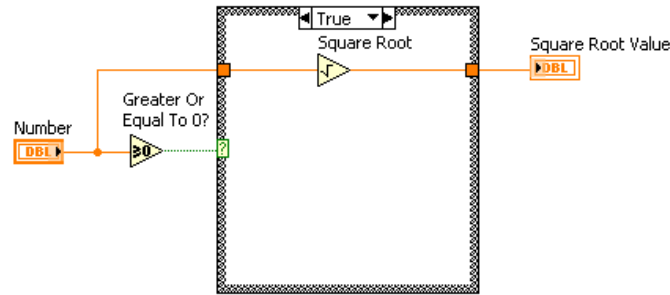

Figure 8.12
2. Select the True case of the Case structure. Place the Square Root function, located on the Functions»Arithmetic & Comparison»Express Numeric palette, on the block diagram. This function returns the square root of Number. Wire the function as shown in Figure 8.12.